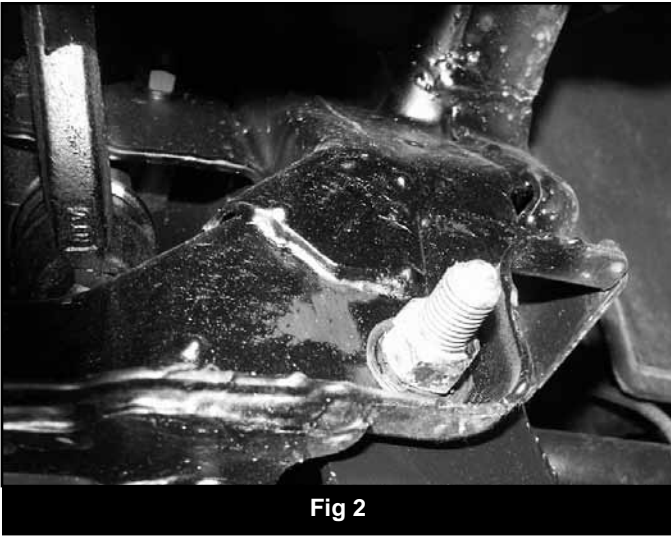

Fig 2
4. Remove the nut from the passenger's side front lower control arm mounting bolt. On lifted vehicles with the lower control arms relocated, it will be the bolt mounting the new crossmember to the factory crossmember. (Fig 2)